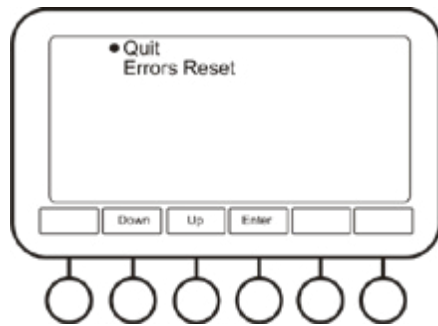

Fig. 7. Current Errors menu
4.9.3.1 **Current Errors** (fig. 7). This option allows user to view and reset the list of active errors. See **Fault diagnostics** section, p. 5.3, for a list of possible errors.